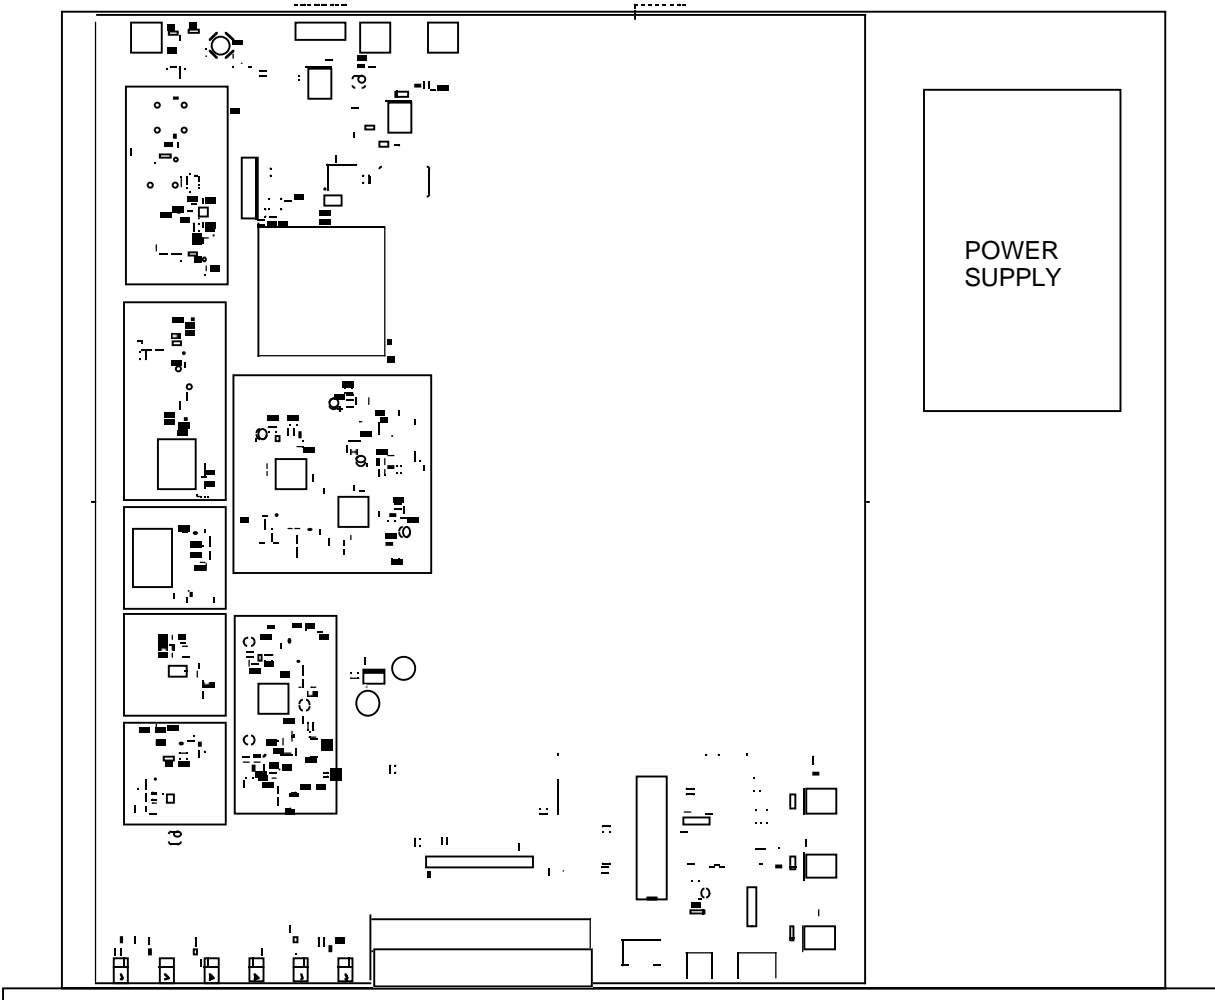

FIGURE 2.0 2015-1351 Mechanical Assembly
2.1 Mechanical - The 2015-1351 consists of one RF/Controller PCB housed in a 1 RU (1.75 inch high) by 16 inch deep chassis. A switching, ± 12 , $+24$, $+5$ VDC power supply provides power for the assemblies. The 2015-1351 can be secured to a rack using the 4 holes on the front panel. Figure 2.0 shows how the 2015-1351 is assembled.